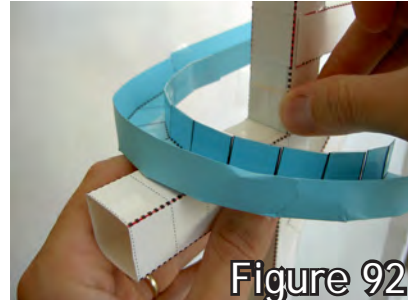

Figure 92
5. Hold the cantilever in place beneath the track and tape it to the column or beam. (fig. 92)